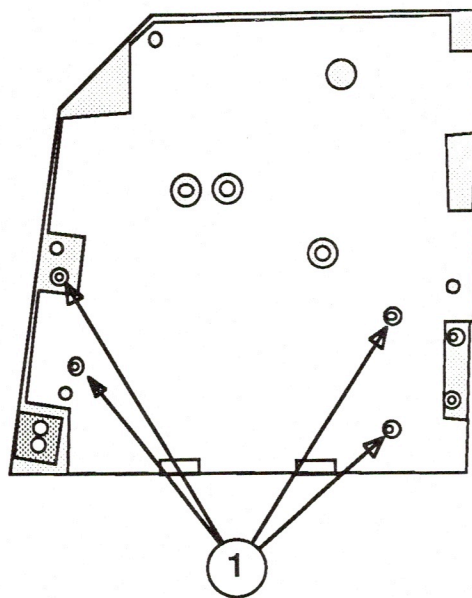

FIGURE 8
11. Place the board on the grounded workbench pad with the power supply down, and remove the four power supply screws (Figure 8, #1). Lift the board free.
3. Replace the four power supply screws (Figure 8, #1).